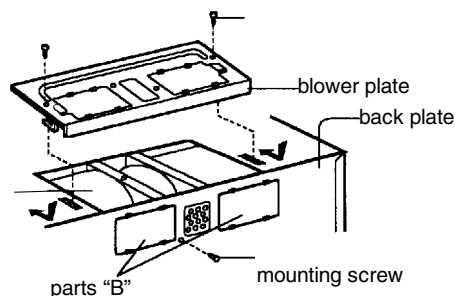

Figure 21
7. Reattach blower plate to microwave oven. Attach with the one blower unit screw and then the one or two blower plate screw(s). See Figure 21.